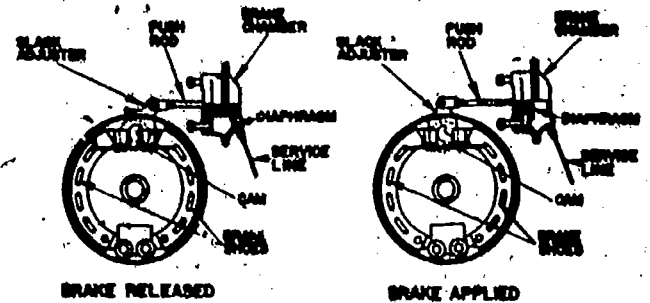

Fig 2-56. Operation of brake shoes from brake chamber.
- (d) You will find a slack adjuster (fig 2-56) instead of brakeshoe cams used to adjust airbrakes. This adjusting device has an adjusting nut and a locknut which must be loosened before making an adjustment. Turning the adjusting nut rotates a worm gear that takes up the slack in the adjuster. Back off the adjusting nut just a little after tightening it, then retighten the locknut. Push rod travel at all wheels should be exactly the same so braking action is equal. It should be at a minimum from fully applied to fully released with the shoes not dragging in the released position.